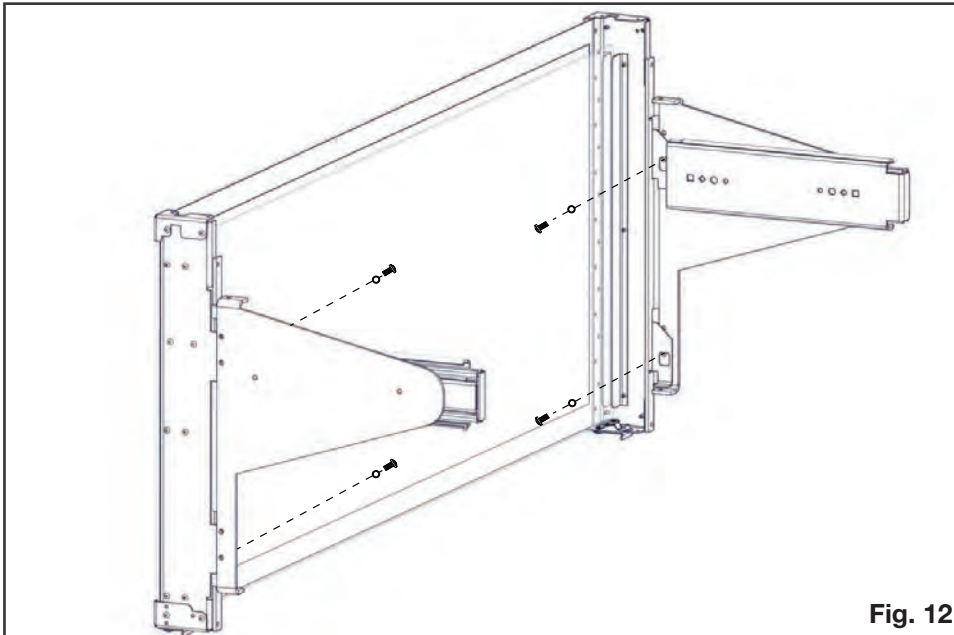

Fig. 12
- Secure GGA-1 with 1 fastener and 1 washer on top and bottom of each GGA-1 slider bracket (total of 4) holding the GGA-1 tight to the GGA-1 slider bracket surface throughout (**Fig. 12**). Tighten firmly enough to hold GGA-1 against GGA-1 slider bracket. Do not fully tighten until adjustment is complete and during final GGA-1 installation.